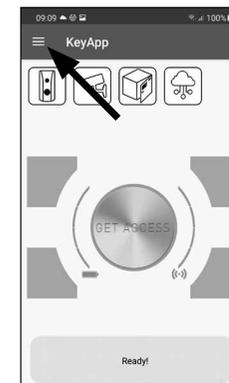

Fig. 27
- ① Open the main menu (Fig. 27).